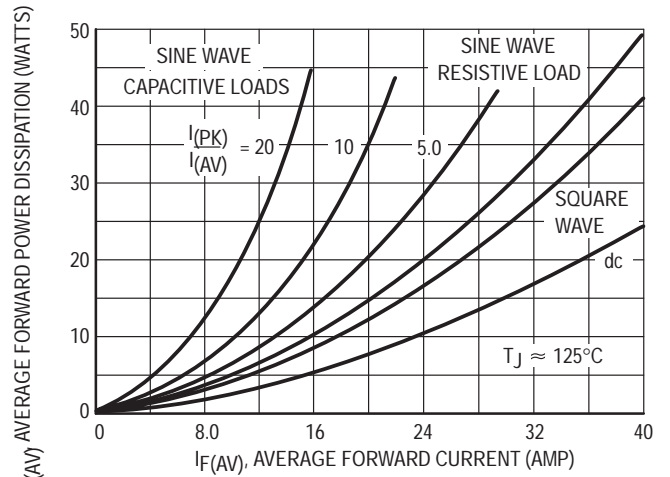

Figure 4. Forward Power Dissipation
Step 3. Find $P_{F(AV)}$ from Figure 4. †Read $P_{F(AV)} = 20$ W